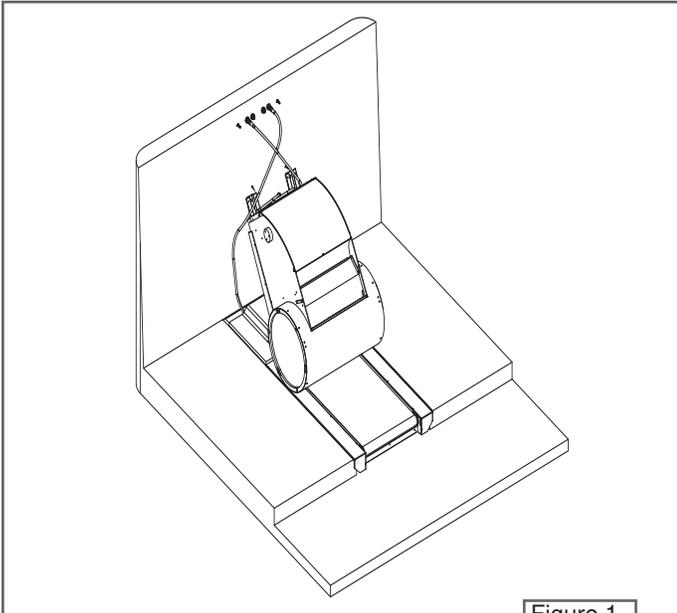

Figure 1.
1. The swim machine weighs 122 lbs (56Kg). Mounting the swim machine is a two person operation. Remove the swim machine from its packaging. If a treadmill is present, then tuck the hanging brackets (hat channels) under the treadmill hoses beneath the point where the hoses cross. **Figure 1.**